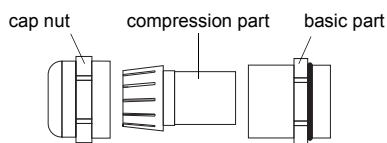

Fig. 6.9: Cable gland
- Push the power cable through the cap nut, the compression part and the basic part of the cable gland (see Fig. 6.9).
- Fix the cable gland by screwing the cap nut onto the basic part (see Fig. 6.9).
- Push the output cable through the cap nut, the compression part and the basic part of the cable gland (see Fig. 6.9).